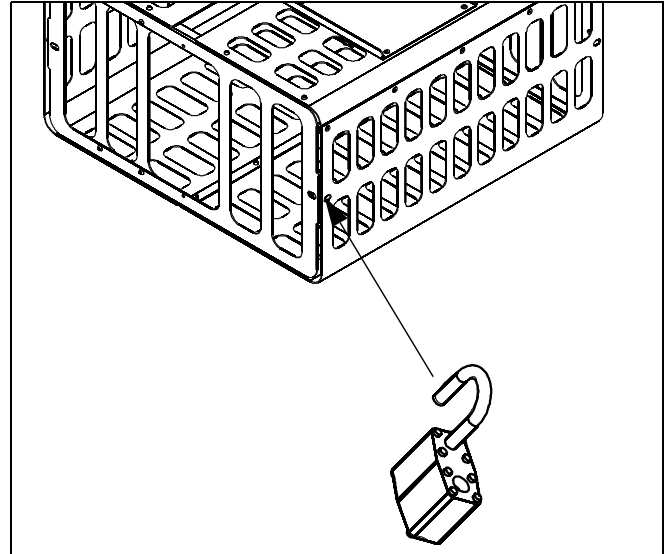

Figure 9
**NOTE:** A padlock may be placed on the projector guard for added security. (See Figure 9)